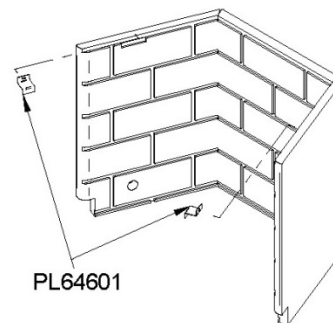

Figure 42.3
3. Unscrew the refractory panel retainers (2x: 1 left and 1 right) (PL64601). **Figure 42.3**